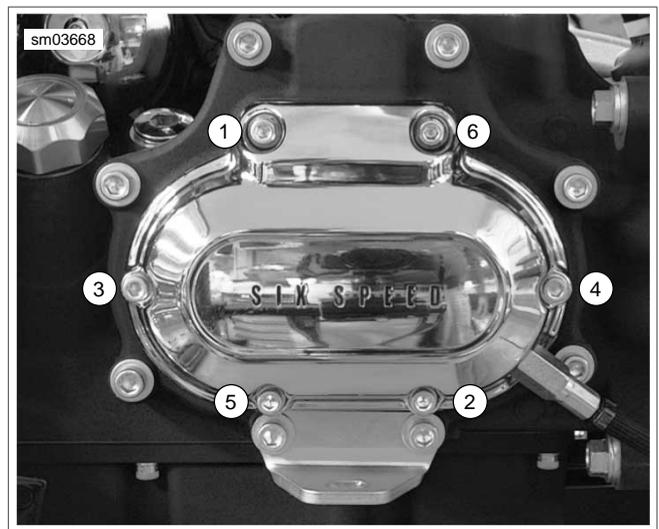

Figure 2-91. Clutch Release Cover Torque Sequence (Short Screws at Locations 1 and 6)
14. Holding the clutch release cover in position, install six socket head screws (with captive washers). Tighten screws to 84-108 **in-lbs** (9.5-12.2 Nm) in the sequence shown in Figure 2-91.